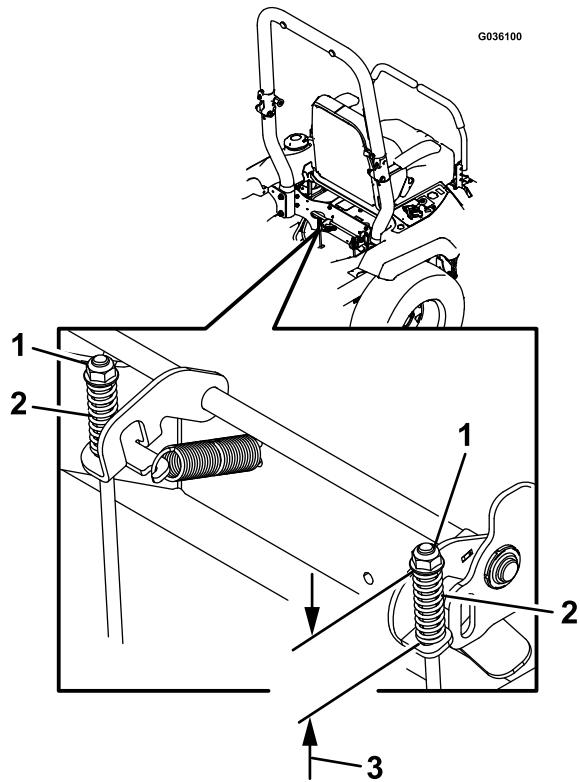

Figure 70
- Check the both spring lengths as shown in Figure 70. If adjustment is necessary, turn the top